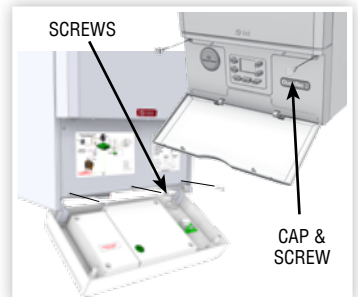

FIGURE 31.
- 17.5.1 Lower the flip door and remove the 2 screws cover plugs and unscrew the 2 screws. See figure 31. Drop down and move the control panel assembly. See figure 31.